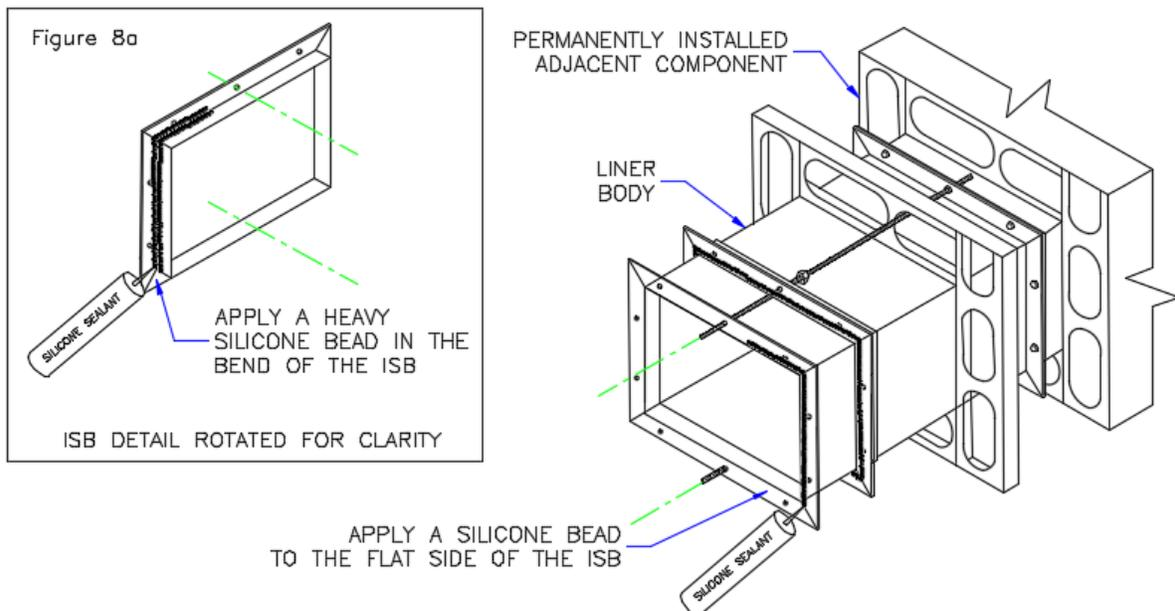

Figure 8: Insert the Internal Support Bracket into the cut end of the Liner Body and apply silicone to both.
15. Then place another bead of silicone on the flat side of the ISB. (See figure 8)